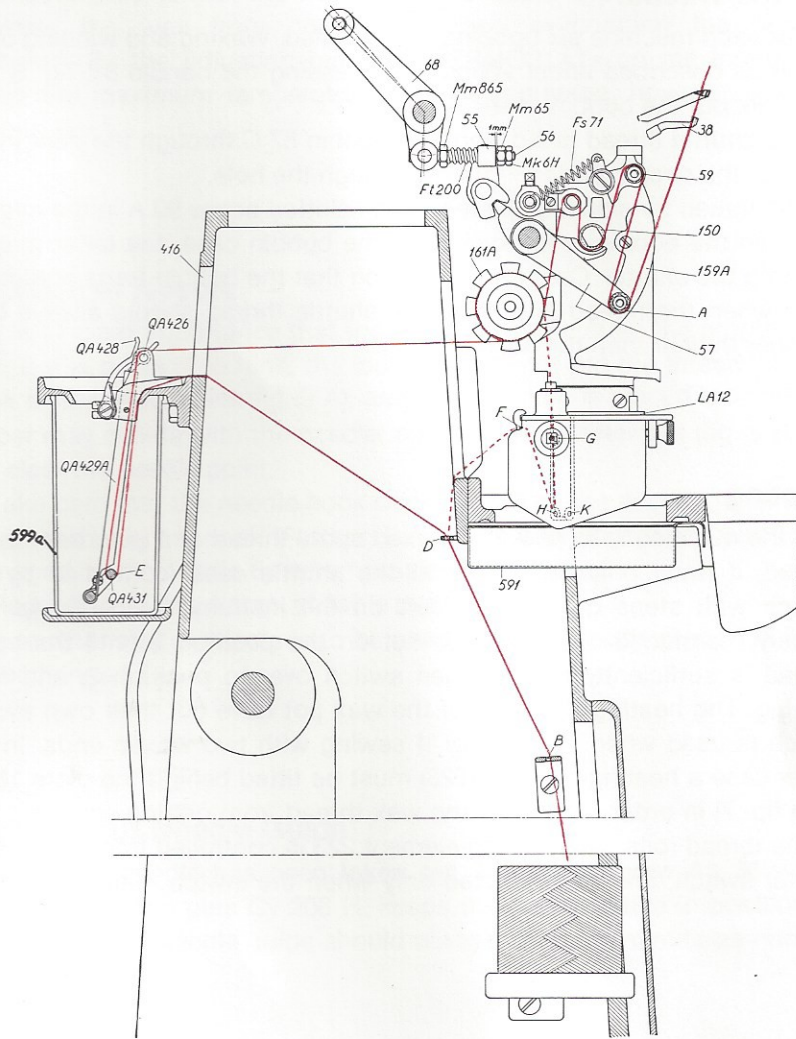

Fig. 7
When winding, the thread is to be led from the right-hand thread bobbin through the guide holes B and D to the right (see fig. 7), through the hole to the right at F, via the thread eyes K and G through the adjustable rubber stopper at the wax pot, and to the winding apparatus running clockwise.
As the machine is threaded on delivery, it is recommended to examine the thread guide immediately on arrival of the machine. From the left thread bobbin the thread is led through two guiding holes B and D to the left (see fig. 7). Next via the opening of the lubricant pot through the porcelain ring E. From there through the tube QA 429 A, over the stripper roll QA 426, and through holes in the column to the tension wheel 161 A.
After a turn on this roll, the thread passes the thread roll 153 on the thread measure lever, the thread brake roll 150, the auxiliary take-up lever roll 59, and under the take-up lever thread roll A; from here upwards through the looper 38, and finally through the opening in the sewing table. This threading is for sewing with gum, and is shown on fig. 7, indicated as a fully drawn red line.
If the machine is to sew with waxed spool thread and gummed needle thread, it must only be heated at the shuttle case (controlled by the switch with steps quite to the left on the instrument board). As previously mentioned, the switch is set on the position 3 until the spool thread is sufficiently heated, then switch over to position 2, and start sewing. The heating-elements of the wax pot have got their own switch which is used when winding, or if sewing with two waxed ends. In the latter case a heating-element (223) must be fitted behind the plate 159 A (see fig. 7) in order to prevent the wax thread from getting cold and stiff in the thread rolls. The heating-element 223 is controlled from the shuttle heater switch, and is connected only when the switch stands at 3 or 2.
*Adjustment of the Brake (see fig. 7).* Turn the machine until the take-up lever 57 is in its bottom position. By means of the hindmost adjusting nut Mm 865 on the tension rod 56 the brake can be made more or less tight. The brake must never be set so hard on the brake-roll that it spoils the thread; further, there must be a play of about .03 inch between the two front nuts and the shaft swivel as shown on fig. 7.
The machine has automatic thread-giving, which is adjusted at the works. At a suitable heating of the shuttle, the shuttle thread and the needle thread should have nearly an equal tension in order that the threads may be flung in the middle of the sole at a normal length of stitch. Deviations can be adjusted by tightening the shuttle or the needle threads, respectively. The needle thread is set by the knurled nuts for the tension wheel 161 A (fig. 7). Setting of the shuttle thread is described under »Shuttle Thread«.